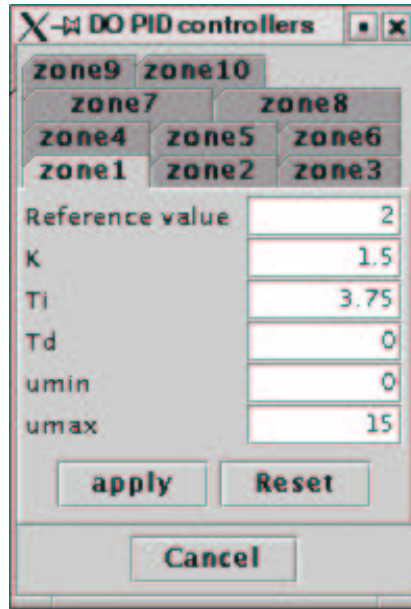

Figure 3: The DO PID controllers dialog
25. The oxygen in each compartment is controlled by a PID controller. To change the parameters for one of these, select *DO PID controllers* in the *Controllers* menu. A dialog like the one shown in Figure 3 will be displayed. The dialog holds a tabbed panel where the number of tabs matches the number of compartment. The tabs are named *zone 1*, *zone 2* and so on. Clicking on one of the tabs displays the parameters for the DO controller of that zone. Here it is possible to change the reference value and the PID parameters. The buttons in this dialog box works a little different than in the others: after Changes has been made, pressing *Apply* will set the new parameters of the controller. If *Reset* is pressed, the values in the current tab of the dialog box will be reseted to the latest applied values. Pressing *Cancel* closes the dialog.